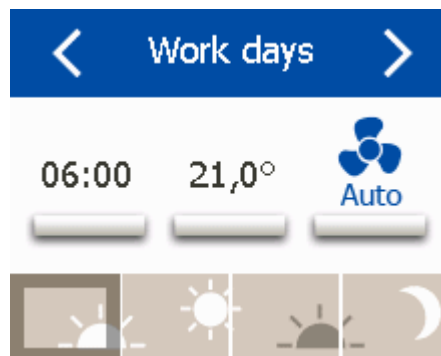

Fig. 94: Setting working days
- ⇒ The 'Work days' screen (Fig. 94) displays.